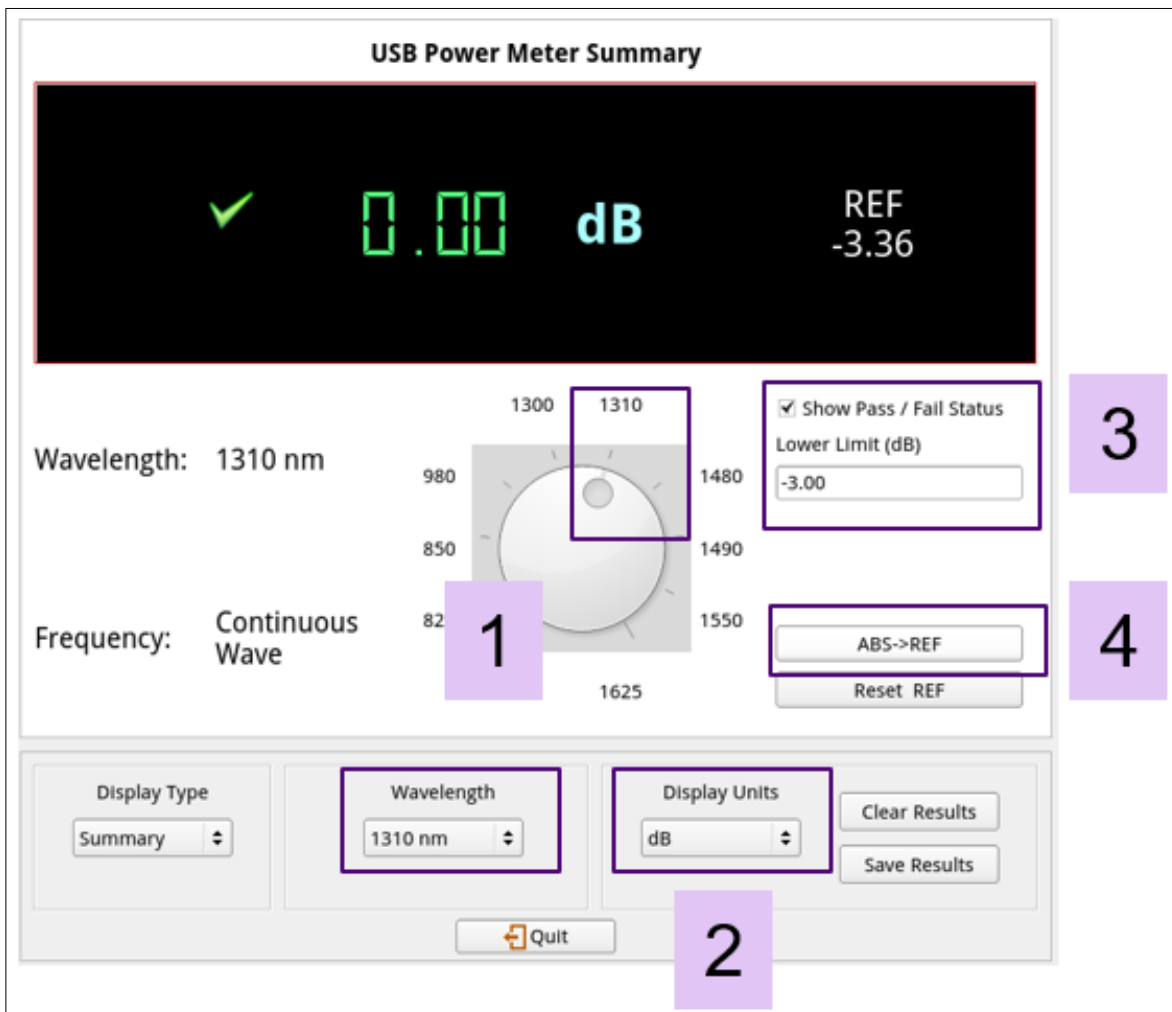

Figure 8: Power Meter set-up
3. Configure the Power Meter as shown in *Figure 8*: